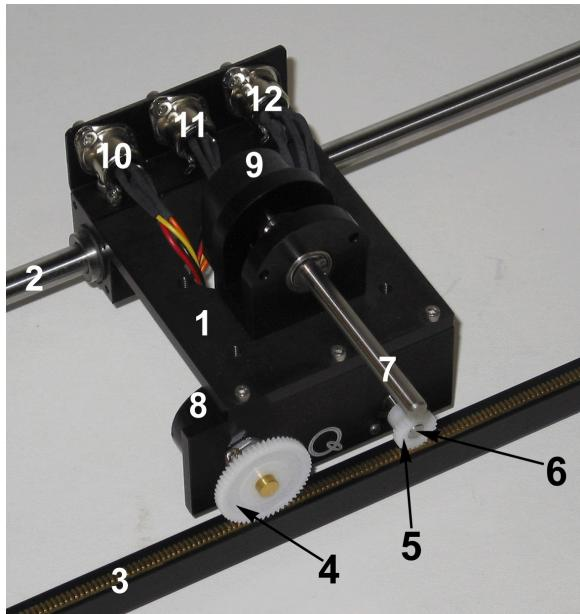
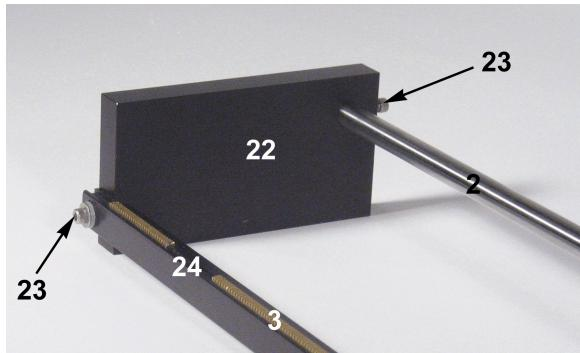
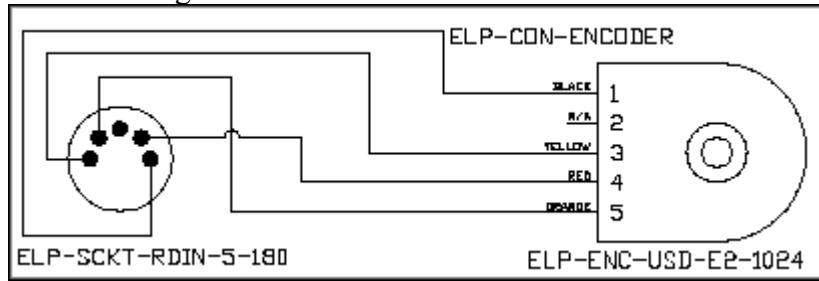

Figure 3 IP02: Front View
Figure 7 Rack Left End
Figure 10 IP02 Encoder Wiring
As a quick nomenclature, Table 5, below, provides a list of all the principal elements composing the IP01 and IP02 systems. Every element is located and identified, through a unique identification (ID) number, on the IP01 and/or IP02 systems represented in Figures 3, 4, 5, and 6, below, as well as Figures 7 and 8.
Moreover as illustrated in Figures 7 and 8 below, parts of the track are missing (feature or "component" #24) at both ends of the IP01 or IP02 rack. This feature plays the role of a hardware safety watchdog in preventing the IP01 or IP02 cart from running into one of the track's ends, which could potentially be damaging.
The supplied motor cable is designed to connect from a Quanser Universal Power Module to a 4-pin DIN connector, shown as component # 12 in Figures 3, 4, and 6, on page 7.
On the IP02, both cart and pendulum positions are measured with two optical encoders, represented in Figure 3 by components # 8 and 9, respectively. Having an encoder (as opposed to a potentiometer) sensing the pendulum angular position no longer constrains the range of motion of the pendulum to the inverted position. Therefore, self-erecting inverted pendulum experiments become possible. The encoder measuring the IP02 cart linear position does so through a rack-pinion system. Both encoders are typically identical. The encoder model used in the IP02 is a **US Digital S1 single-ended optical shaft encoder**. It offers a high resolution of 4096 counts per revolution (i.e. 1024 lines per revolution with two channels in quadrature). The complete specification sheet of the S1 optical shaft encoder is included in Appendix E. An incremental encoder gives a **relative** position signal.
The position signal generated by the encoder should be directly connected to a Quanser terminal board (a.k.a. I/O card) using a standard 5-pin DIN cable. **DO NOT connect the encoder signal to the amplifier**. The internal wiring diagram of the IP02 encoder is depicted in Figure 10. The standard 5-pin DIN connector, shown in Figure 10, is also pictured as component # 10 or 11 in Figure 3.